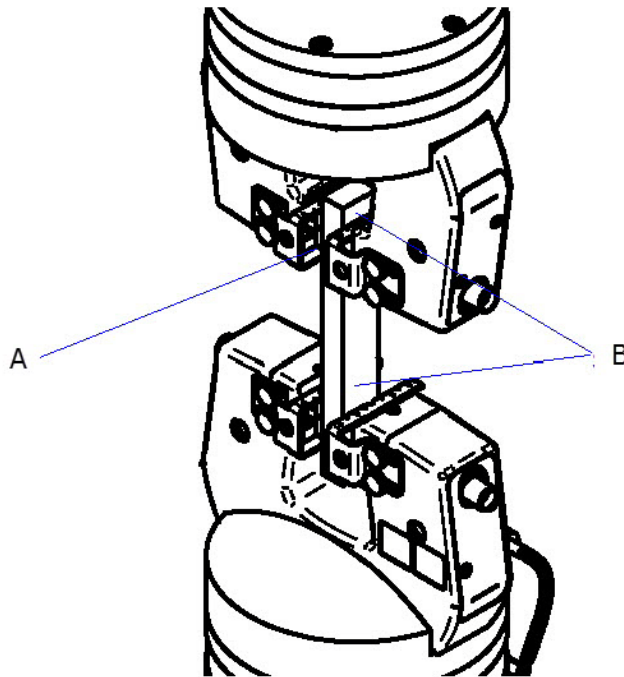

Figure 21. Specimen Installation
1. Center the specimen in the grips. Make sure the specimen is perpendicular and contacts the entire length of the jaw faces as shown in Figure 21 on page 50.